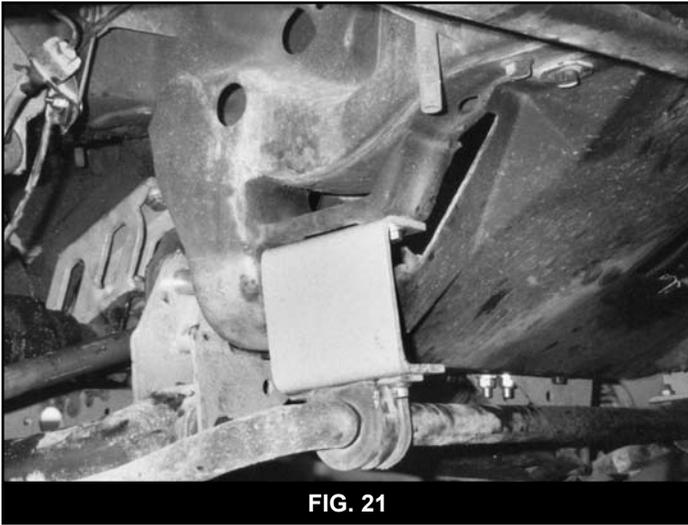

FIG. 21
58. Install the front sway bar drop brackets to the frame using the supplied 3/8" x 1-1/4" bolts, 3/8" USS washers, and nuts from bolt pack #512. Install brackets so they are open toward the center of the vehicle. Attach the sway bar to the drop brackets using the OE hardware. (Fig. 21)